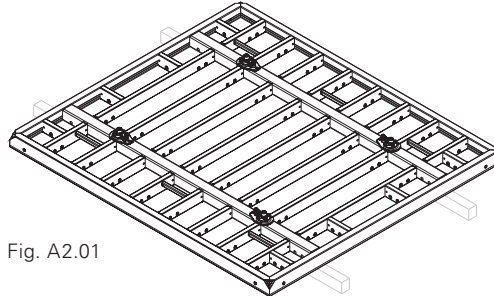

Fig. A2.01
1. Insert all swivel nuts in the tie points. (Fig. A2.01)